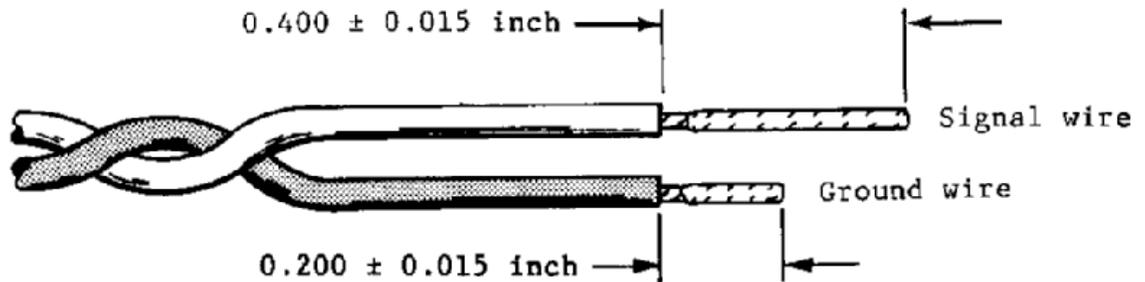

Figure 5-4. Trimming Dimensions for AWG 24 and 26 Wires
6. Trim wires as shown in Figure 5-4 or 5-5.